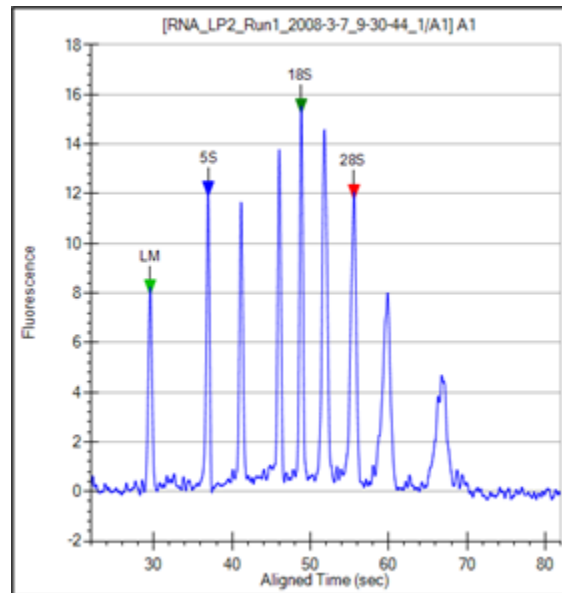

Figure 11. Markers - RNA
- 7 A dye matching the lowest peak in the ladder is run with each of the samples. This lower marker, labeled LM in the RNA sample (see Figure 11) is used to align the ladder data with data from the sample wells.